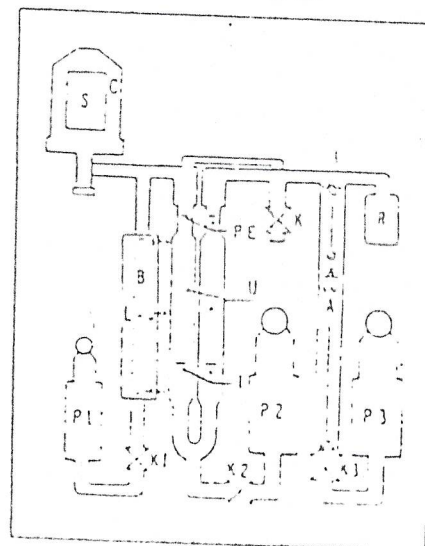

Fig. 2
- 3) The instrument has a structure shown in Fig.2; measuring tubes and U-shaped tubes are all made of acrylic resin, and the metal parts are of alloy or brass, and they are correlated. The measuring range is from 25 ml to 100 ml, and the accuracy is  $\pm 0.1$  ml.